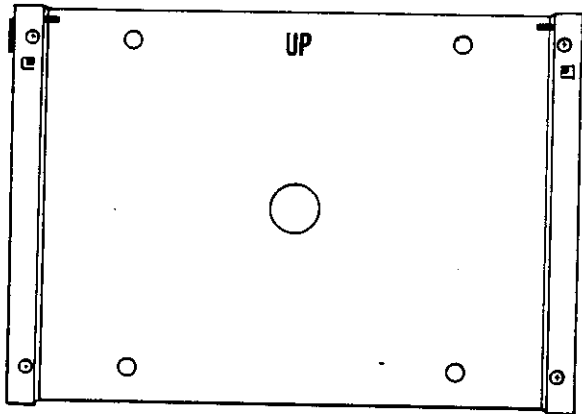

FIGURE 1—WALL MOUNTING PLATE
1.1 A STRATA III wall mountable Electronic Key Telephone (EKTW) or a desk model (EKTD), field converted for wall mounting, may be mounted on a wall or any other flat, vertical surface to which the wall mounting plate can be secured. See Figure 1. NOTE: For instructions on field conversion of an EKTD to an EKTW, see SECTION 100-004-232.